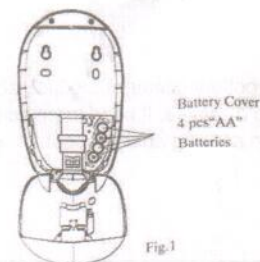

Fig.1
2. Remove cap from refill. See Figure 1.